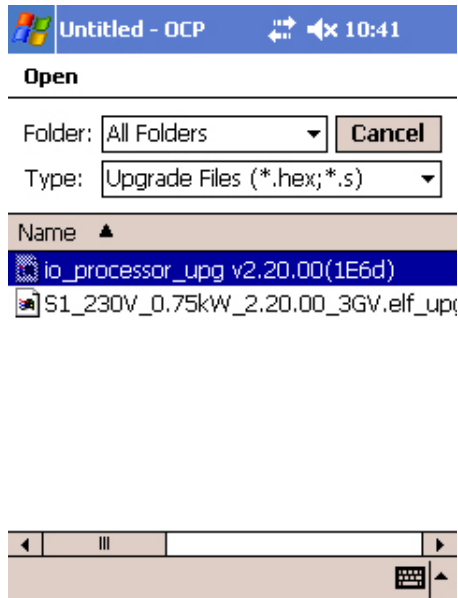

Figure 7
5. Select the appropriate file for upgrade depending and drive type and rating as defined previously. For this example *io_processor_upg v2.20.00(1E6d).hex* as shown in Figure 7.